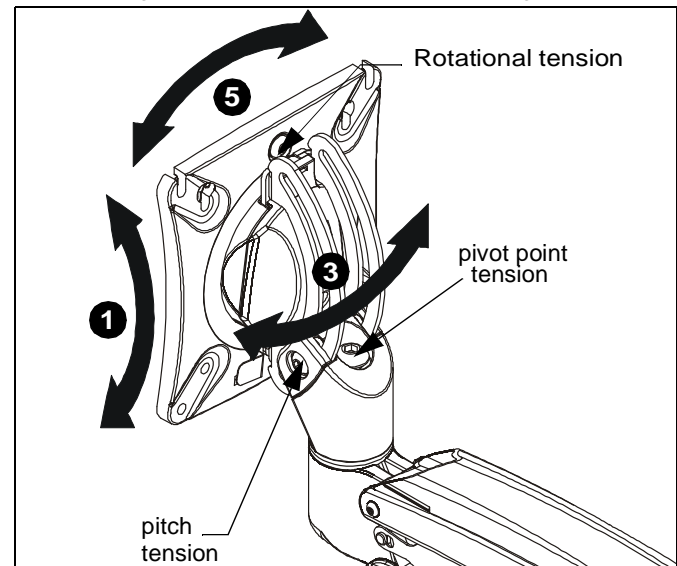

Figure 6
1. Adjust pitch to desired tilt position. (See Figure 6)
2. Adjust pitch tension screw to change the adjustment tension. (See Figure 6)
3. Adjust pivot position as desired. (See Figure 6)
4. Use 3/16" hex key (G) to adjust pivot point tension screws to change pivot adjustment tension. (See Figure 6)
5. The monitor may be adjusted 90 degrees in either direction in order to provide a portrait view of the monitor. (See Figure 6)
6. Use 3/16" hex key (G) to adjust rotational adjustment screw to adjust rotational tension.